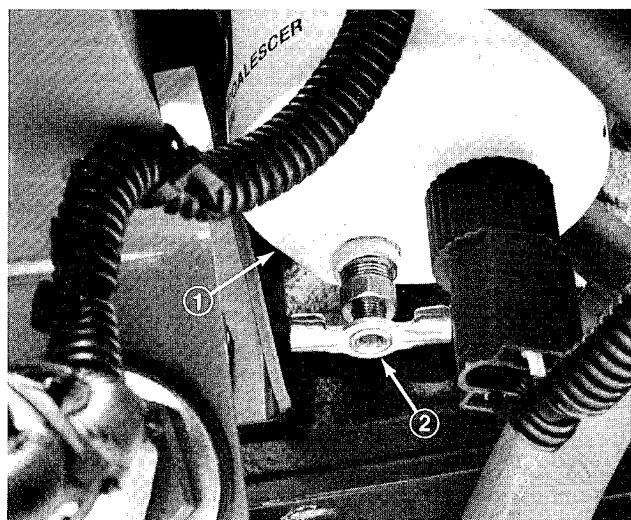

Figure 37
1. Locate fuel filter/water separator on lower left side of engine and drain daily (Fig. 37).